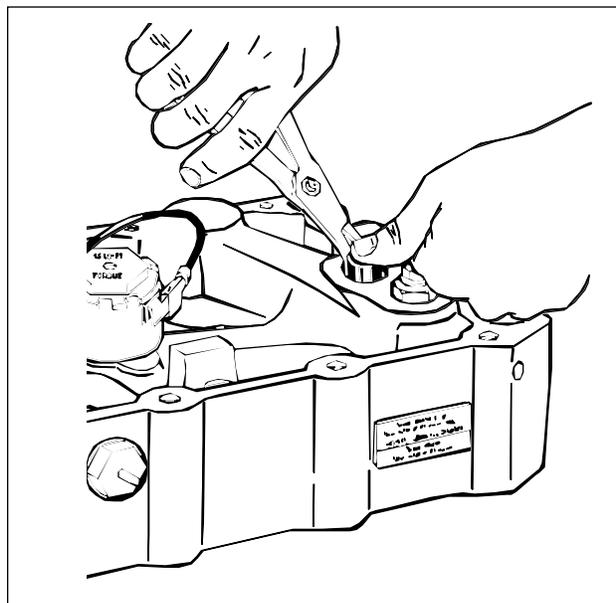

FIG. 14
1. Press down on control valve cover to relieve spring pressure (see Fig. 14). Remove retaining ring using retaining ring pliers.